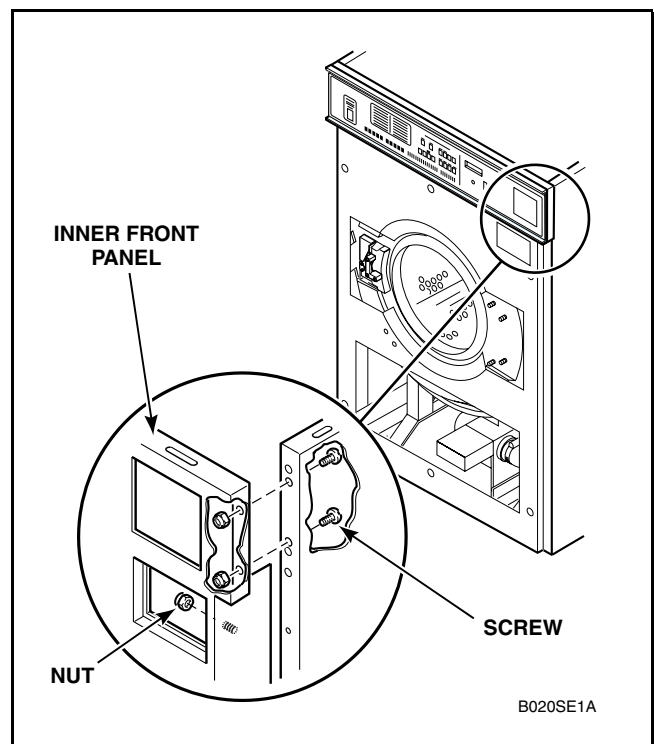

Figure 22
- j. Remove screws and nuts holding inner front panel, refer to *Figure 22*. Remove inner front panel and set aside.
- p. Install the seal around the shell with the adhesive side towards the shell. There should be a slight gap (0 to 1/4 inch) at the top, refer to *Figure 22*. No additional sealant is used.